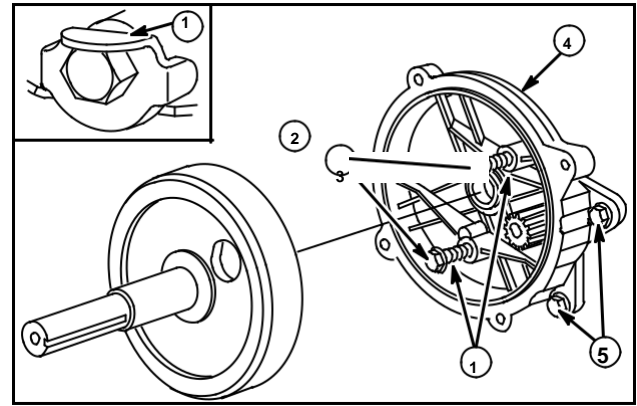

Fig. 27
1. Remove shaft assembly (2) from gear case (4).
2. Bend down two screw locks (1, if equipped), and remove two long cap screws (3).
3. Remove two short cap screws and lock washers (5).
4. Slide gear case off engine, Fig. 27.